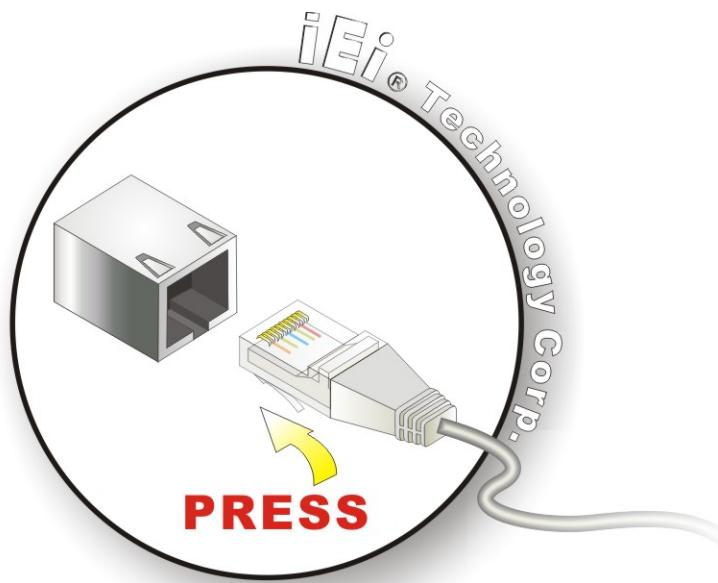

Figure 5-15: LAN Connection
Step 2: Align the connectors. Align the RJ-45 connector on the LAN cable with one of the RJ-45 connectors on the WAFER-CX700M. See **Figure 5-15**.